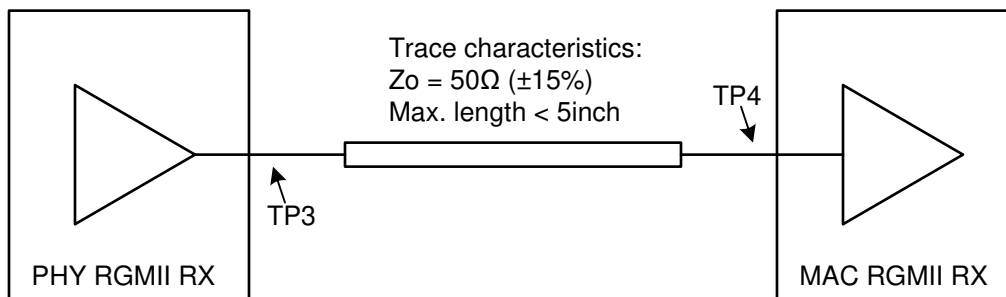

Figure 7-16. RGMII RX Requirements
- No damping resistors should be added at TP3/TP4, in Figure 7-16, as that will impact signal integrity of RX signals.
- Figure 7-16 shows a RGMII interface requirements for RX* signals. MAC RGMII driver output impedance should be 50Ohm+/-20%.
- Signal Integrity at TP3 and TP4, in Figure 7-16, should be verified with IBIS model simulation and ensured conformance to following requirements: